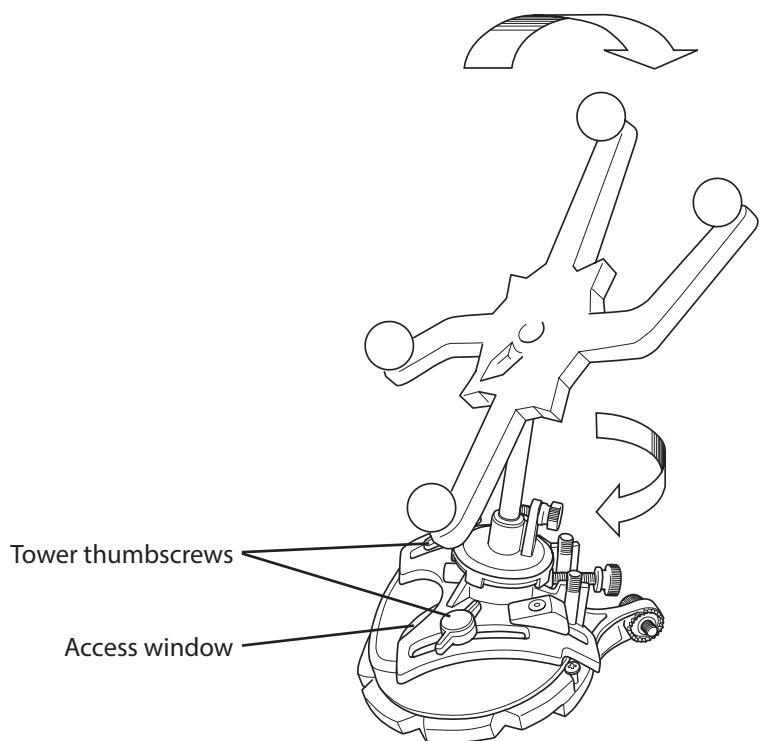

Figure 15. Sweep and rotate the socket assembly.
- Sweep the tower and observe the path on the guidance screen (Figure 15).
- Fully tighten the two tower thumbscrews (Figure 15).